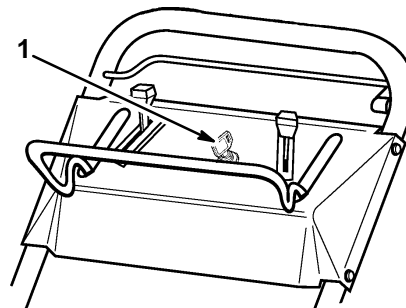

Figure 7
- Insert key into switch on control panel when you are ready to start the engine (Fig. 7).